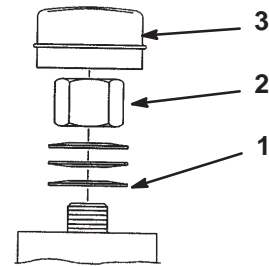

Figure 48
2. Remove dust cap from caster and tighten lock nut (Fig. 48).
3. Tighten until spring washers are flat and then back off a 1/4 turn to properly set the pre-load on the bearings (Fig. 48).
Important Make sure spring washers are installed correctly as shown in figure 48.